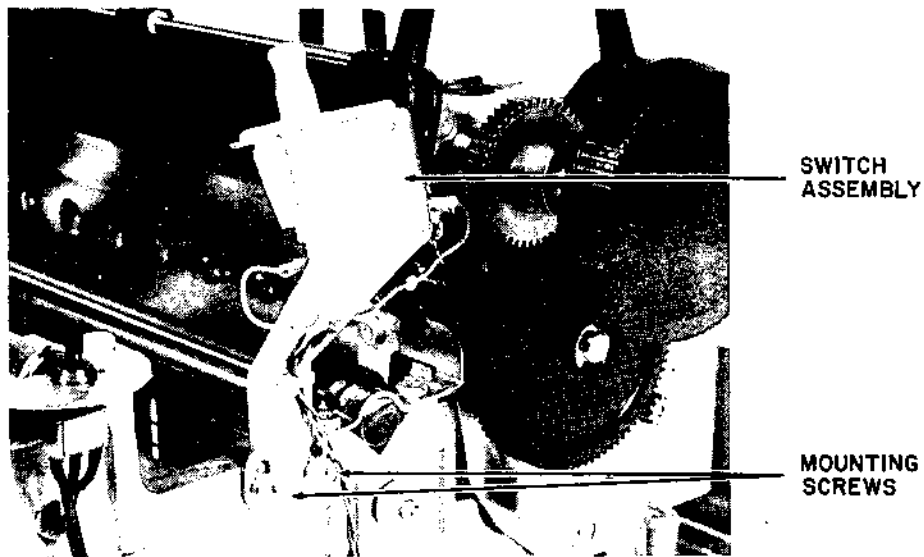

Figure 5-52 SIDE COVER OPEN SWITCH INSTALLATION
1. Study Figure 5-52. The side mounted switch assembly is held to the right side of the printer's main frame by two 8-32 x 3/8" screws. The switch plate mounting holes are slotted to allow both vertical and side to side adjustment of the switch location.